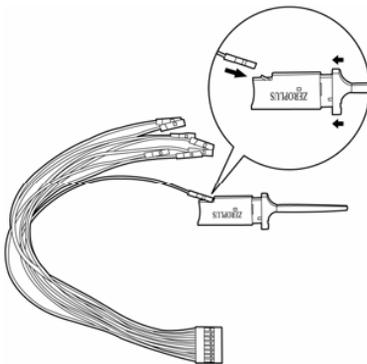

Fig. 2-24
- 3-1. Take the loose end of the cable and insert it into the clip as shown opposite (Fig.2-24).